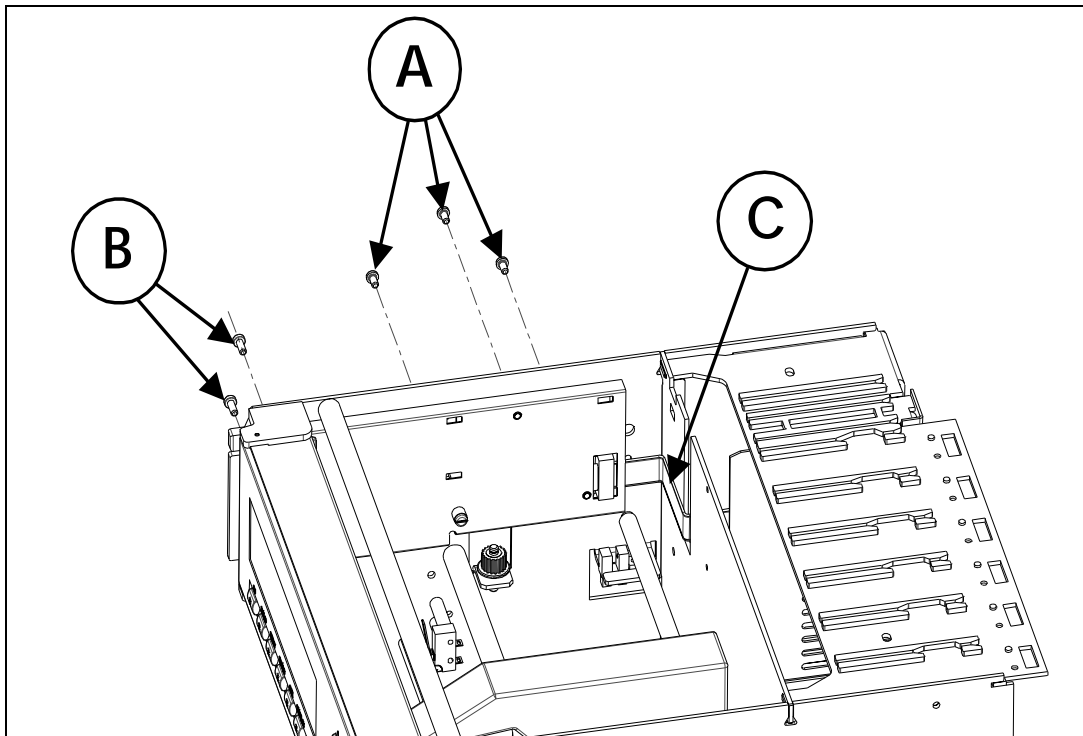

Figure 2-11
25. Put in place the PCMCIA sub-assembly on the left hand printer chassis side plate. (See Figure 2-11)
26. Fix the PCMCIA sub-assembly with the 3 screws M3. (See ref. A, Figure 2-11)
- Fix the memory card guides with the 2 screws M2. (See ref. B, Figure 2-11)
- Fix the PCMCIA flat cable on the rear metal sheet with the double-side adhesive tape. (See ref. C, Figure 2-11). The adhesive tape is located on the flat cable.